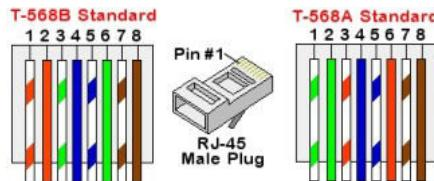

Figure 24: Standard cable wiring
- c. Insert the eight wires into an RJ45 connector, as described in *Figure 24*.
- 7. For the switch/router side, use a pre-crimped cable or use a crimper to prepare an RJ45 communication connector: Insert the eight wires into the RJ45 connector in the same order as above (*Figure 24*).